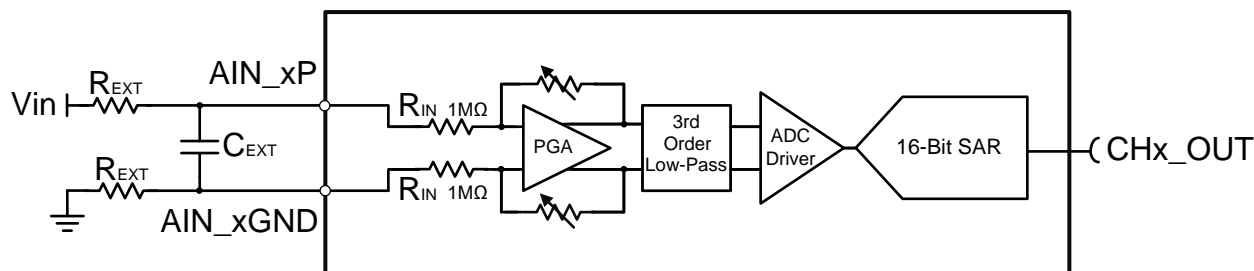

Figure 1. ADS8588S Integrated Analog Front End with external RC filter
For applications using SAR ADCs with integrated analog front ends (AFE), such as the ADS8588S, an external resistor-capacitor (RC) filter at the input may be necessary to eliminate noise pickup and to protect the input from electrical overstress. However, this filter introduces gain error and gain error drift. The purpose of this TechNote is to show how to calculate the gain error and gain error drift added by the external RC filter. Figure 1 shows the integrated AFE in the ADS8588S and the external balanced RC filter. It is very important to understand that the external filter requires a resistor on both the positive and negative inputs as shown; matching the input impedances is required for good common mode and noise rejection.